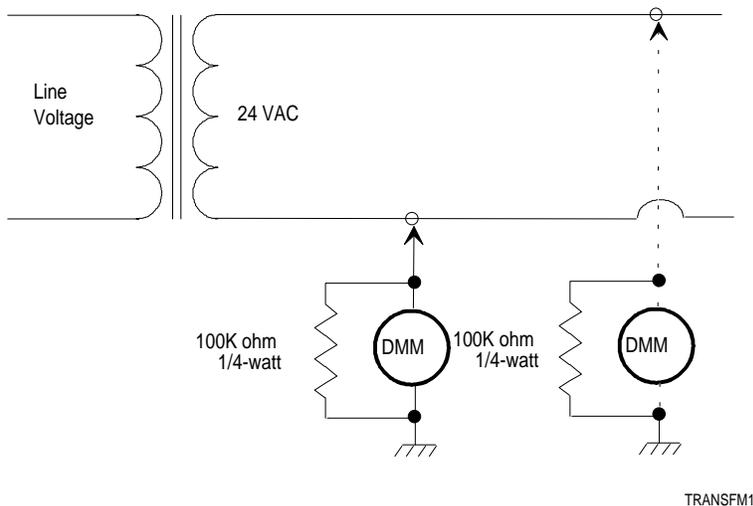

Figure 3: Testing the Transformer
- a. Measure the voltage of each secondary transformer lead to earth ground with the DMM in parallel with a 100K ohm 1/4-watt resistor (Figure 3; if using double banana plug, insert plug into DMM).